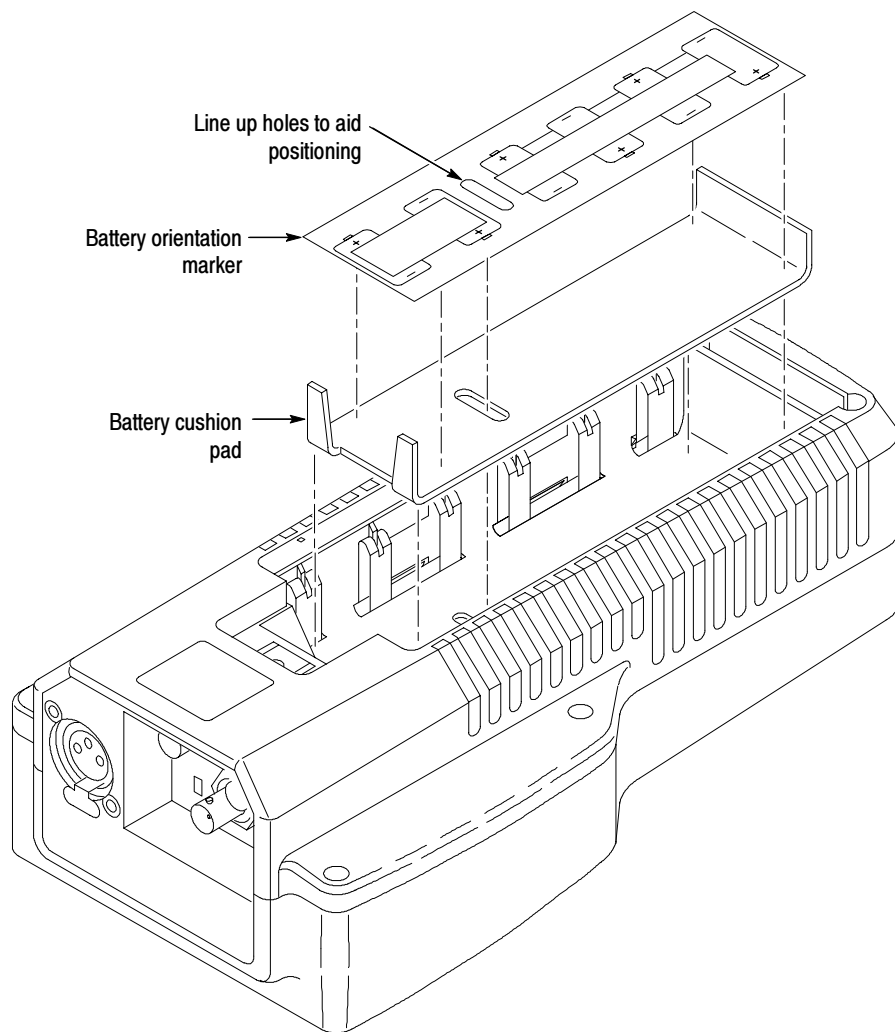

Figure 6-14: Battery orientation marker position
2. Position the battery cushion pad in place above the bottom cover before you press it onto the bottom cover. See Figure 6-14.
5. Position the battery orientation marker in place above the battery cushion pad before you press it onto the battery cushion pad. See Figure 6-14.